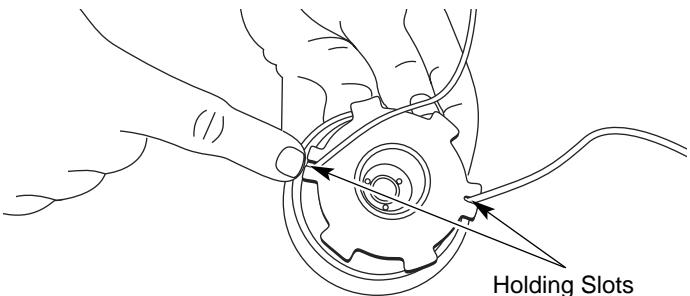

Fig. 21
12. Insert the ends of the line into the two holding slots (Fig. 21).